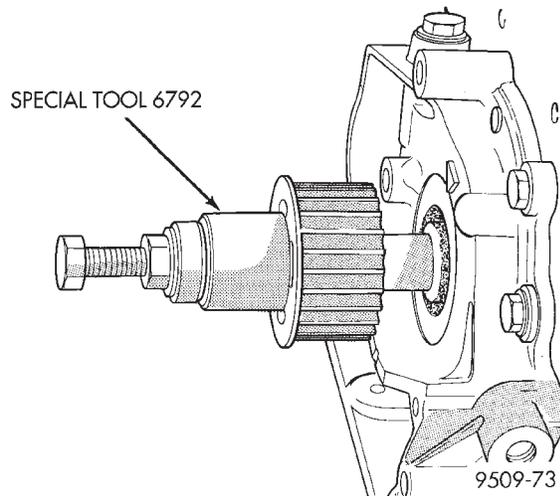

Fig. 57 Crankshaft Sprocket—Installation
(2) Place seal into opening with seal spring towards the inside of engine. Install seal until flush with cover.
(3) Install crankshaft sprocket (Fig. 57). Using Special Tool 6792.